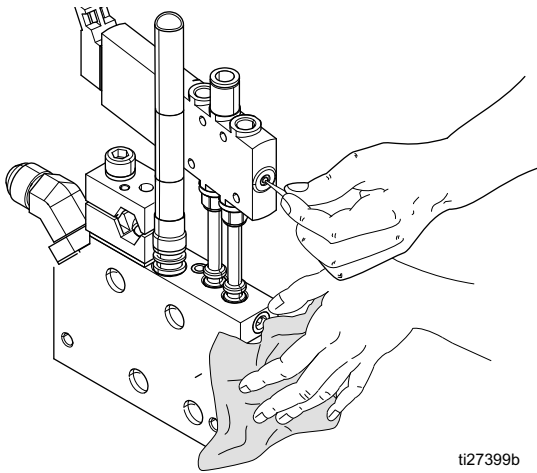

FIG. 19
5. Hold a rag over the manifold air ports and turn the air supply ON to clean the ports as shown in **Figure 19**.